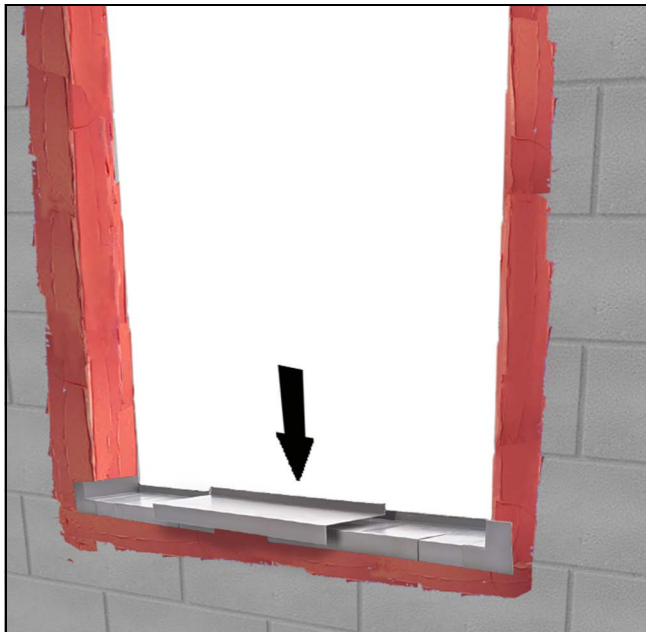

Figure 3
3. If rigid panning is used, place a bead of silicone or construction adhesive used to hold the panning to the sill. See Figure 3.